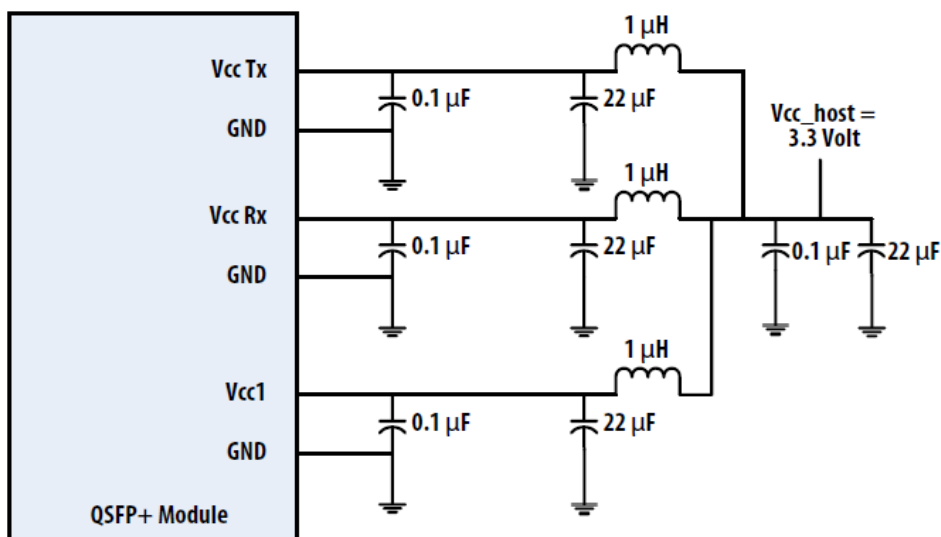

Figure 3. Recommended Power Supply Filter
2. VccRx, Vcc1 and VccTx are the receiver and transmitter power suppliers and shall be applied concurrently. Recommended host board power supply filtering is shown in Figure 3 below. Vcc Rx, Vcc1 and VccTx may be internally connected within the QSFP+ transceiver module in any combination. The connector pins are